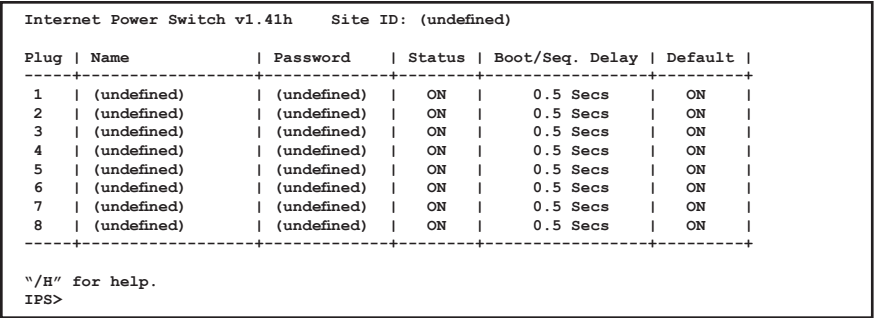

Figure 3.2: Plug Status Screen - Text Interface (IPS-800 Shown)
- i. **Via Telnet:** Telnet to the IPS's default IP address (192.168.168.168). The Plug Status Screen (Figure 3.2) should be displayed.
- ii. **Via Local PC:** Start your communications program (e.g., Hyperterminal) and then press **[Enter]**. The Plug Status Screen should be displayed as shown in Figure 3.2. The default communications parameters for the COM Port are 9600 bps, No Parity, 8 data bits, One stop bit.